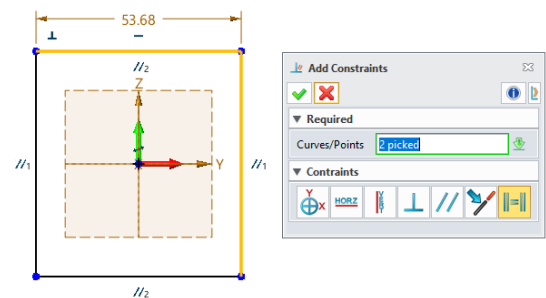

Figure 132 Adding the Equal Constraint
STEP 05 Delete a dimension and apply the **Equal** constraint to the selected lines, as shown in Figure 132.